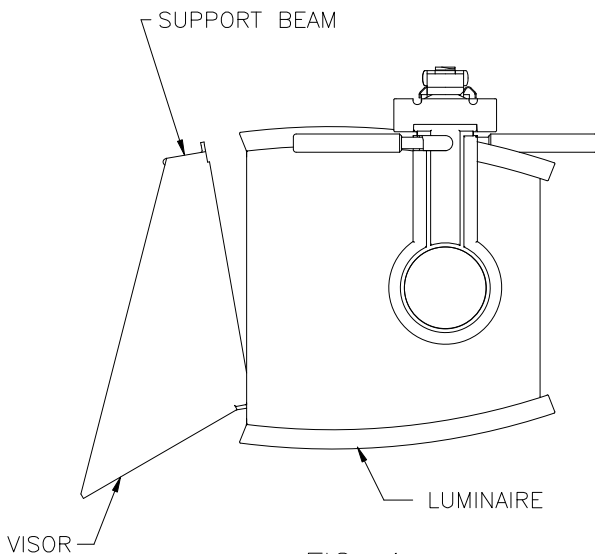

FIG. 1
1. Place LONG TAB of visor in GROOVE. (FIG 1)